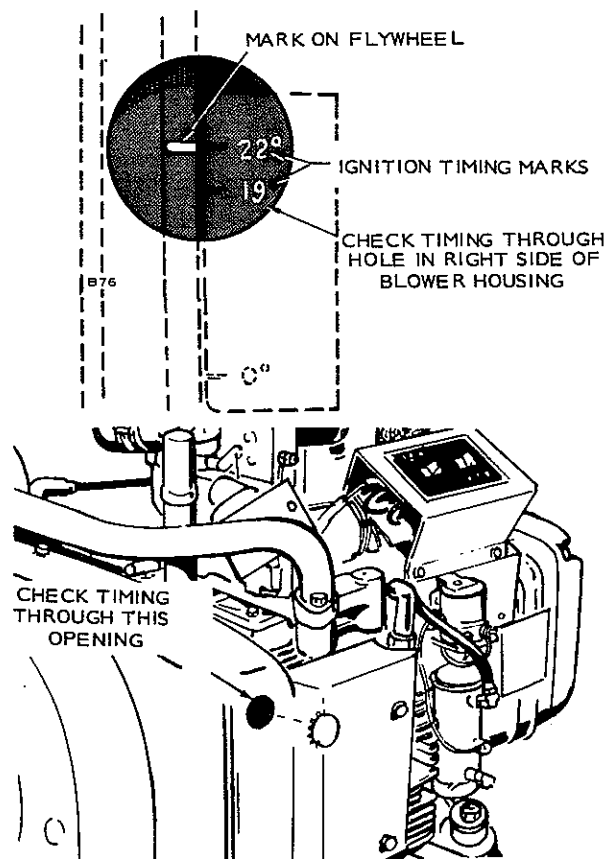

FIGURE 10-41. TIMING ACCESS HOLE (VACU-FLO)
Mobile and other Vacu-Flo equipped engine timing marks are observed through a plugged hole in the engine shroud, Figure 10-41.
2. Observe timing mark through flywheel fan. On Vacu-Flo engines, remove dot button from timing hole, Figure 10-41.
2. Rotate flywheel clockwise until TC mark on flywheel approaches timing pointer (Figure 10-41). Then slowly rotate flywheel clockwise until light goes out, indicating that points have opened at ignition point. If timing is correct, ignition occurs at 3° ATC.